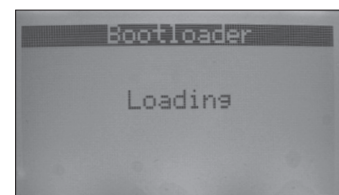

Figure 15 – Screen shot displayed when the application firmware is being updated.
- The LCD screen changes as noted in Figure 15.